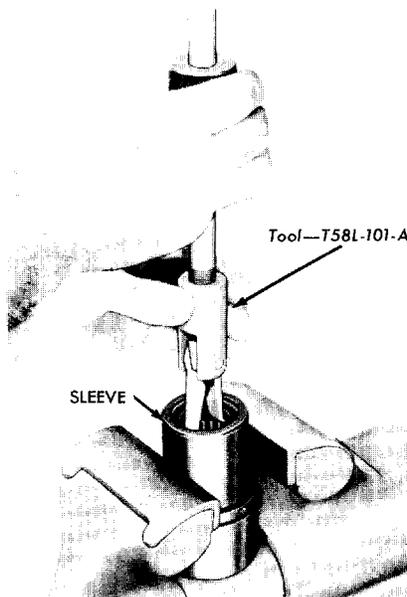

FIG. 16—Sleeve Seal and Bearing Removal
15. Check the sleeve bearing for freedom of rotation. If the bearing is satisfactory, remove the snap ring and replace the oil seal. If the bearing must be replaced, remove the seal, and then remove the bearing, using the tools shown in Fig. 16.